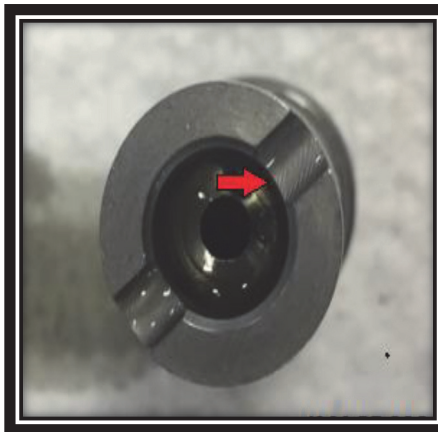
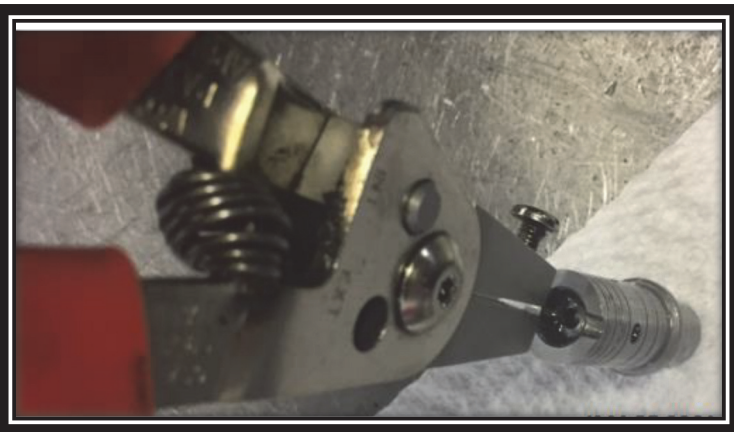

FIG. 4-2
FIG. 4-3
7. Once the spool is removed, flip it over to expose the snap ring. Using the snap ring pliers remove the snap ring. Refer to FIG. 4-2 and FIG. 4-3.